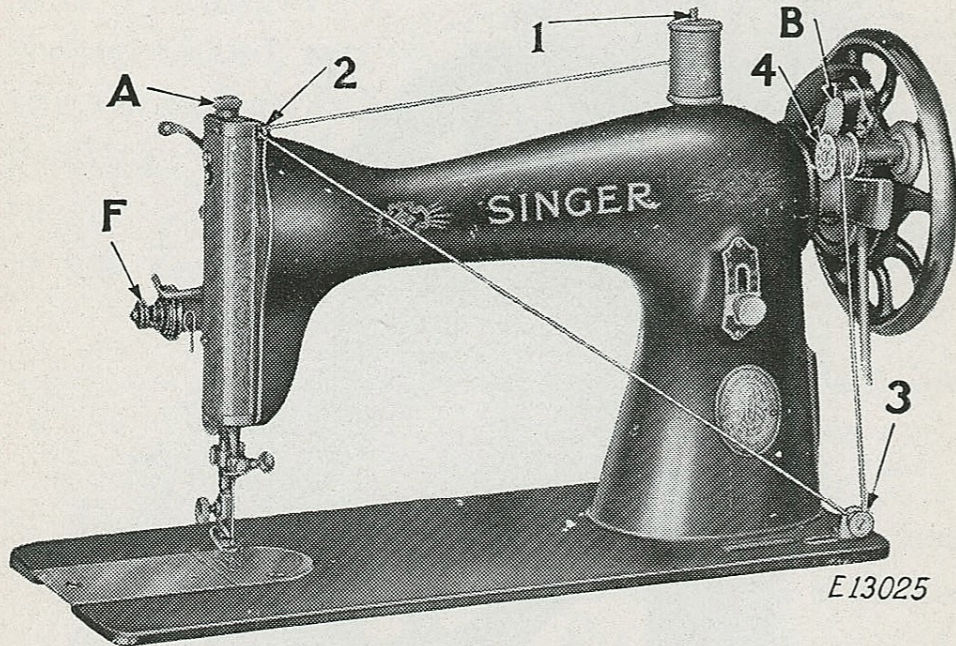

FIG. 5. WINDING THE BOBBIN
the small pin in the shoulder enter the hole in the side of the bobbin. Put the spool of thread on the spool pin (1, Fig. 5). Pass the thread into the thread guide (2, Fig. 5) at the top of the face plate, then from left to right under and between the tension discs (3) on the bed of the machine, then pass the thread up and through one of the holes (4) in the left side of the bobbin, from the inside. Press down on the bobbin and the bobbin winder latch (B, Fig. 5) will drop down and hold the bobbin winder pulley against the hub of the balance wheel. Then operate the machine the same as for sewing.
If the thread does not wind evenly on the bobbin, loosen the screw which holds the tension bracket (3, Fig. 5) in position on the bed of the machine and move the tension bracket to the right or left, as may be required, then tighten the screw.
For ordinary family sewing, it is seldom necessary to change the pressure on the material. If sewing fine silk or flimsy material, lighten the pressure by turning the thumb screw (A, Fig. 5) on the top of the machine over to the left so that it screws up. To increase the pressure, turn this thumb screw over to the right so that it screws down. The pressure should be only heavy enough to prevent the material from rising with the needle and to enable the feed to move the work along evenly. The heavier the material, the heavier the pressure; the lighter the material, the lighter the pressure.
*The tension on the needle thread should be regulated only when the presser foot is down.* Having lowered the presser foot, turn the small thumb nut (F, Fig. 5) at the front of the tension discs over toward you to increase the tension. To decrease the tension, turn the thumb nut over from you.